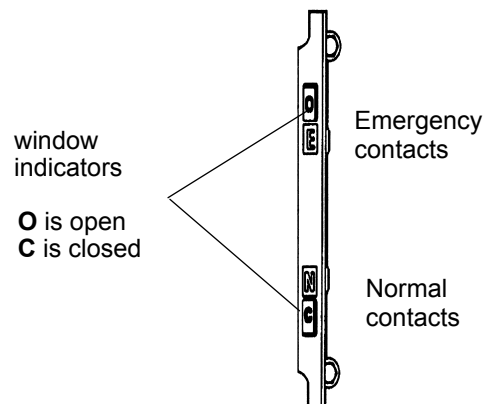
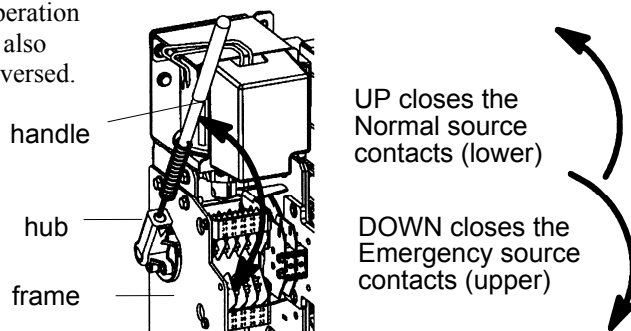

Figure 2. Main contact position indicators on right side.
Figure 3. Maintenance handle operation on 3ATS & 3NTS.
1. After deenergizing both power sources, open the enclosure door. Locate and remove the maintenance handle from the clip on the left side of the transfer switch. See Figures 3, 4, 5, & 6. See Figure 2 for the contact position indicators.